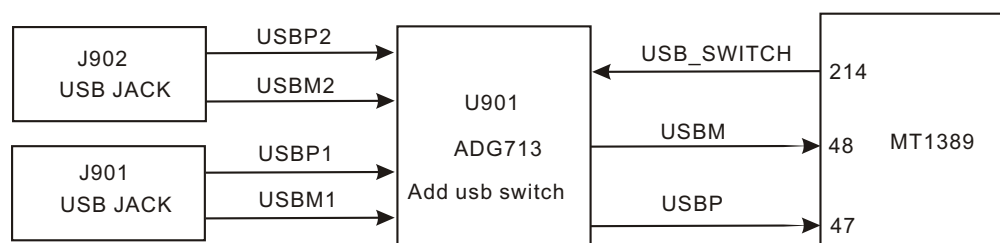

Figure 3.1.4.1 usb/card circuit diagram
1. USB/CARD circuit is shown as in the following figure 3.1.4.1: